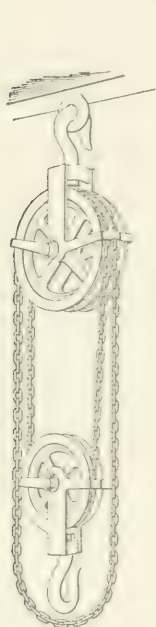

FIG. 32.
78. The Weston differential pulley block, more commonly known as a **chain hoist**, is shown in Fig. 32. With